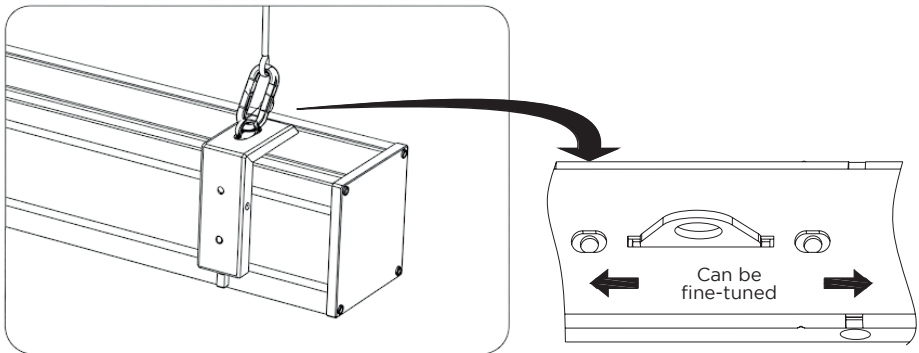

Fig. 18
4. After completing steps 2 and 3, check that the brackets are securely attached to the screen housing before hanging the screen. Hook the screen into the carabiners as shown in Figure 18. Finally, check all brackets and carabiners to ensure they are securely fastened. Make sure they are attached so that the screen hangs horizontally without twisting and that there is no lateral tension or pressure on the eyelets.